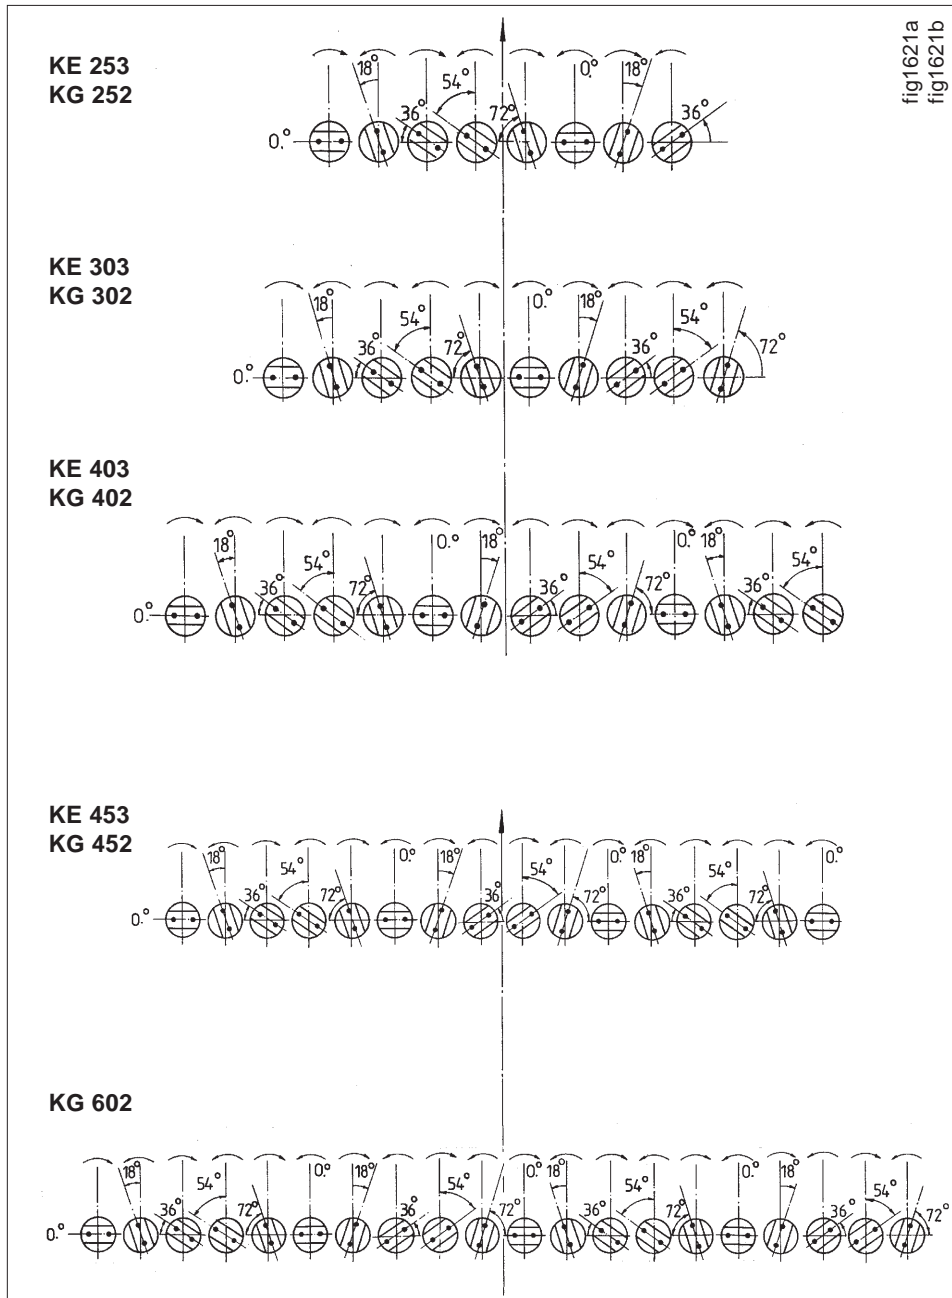
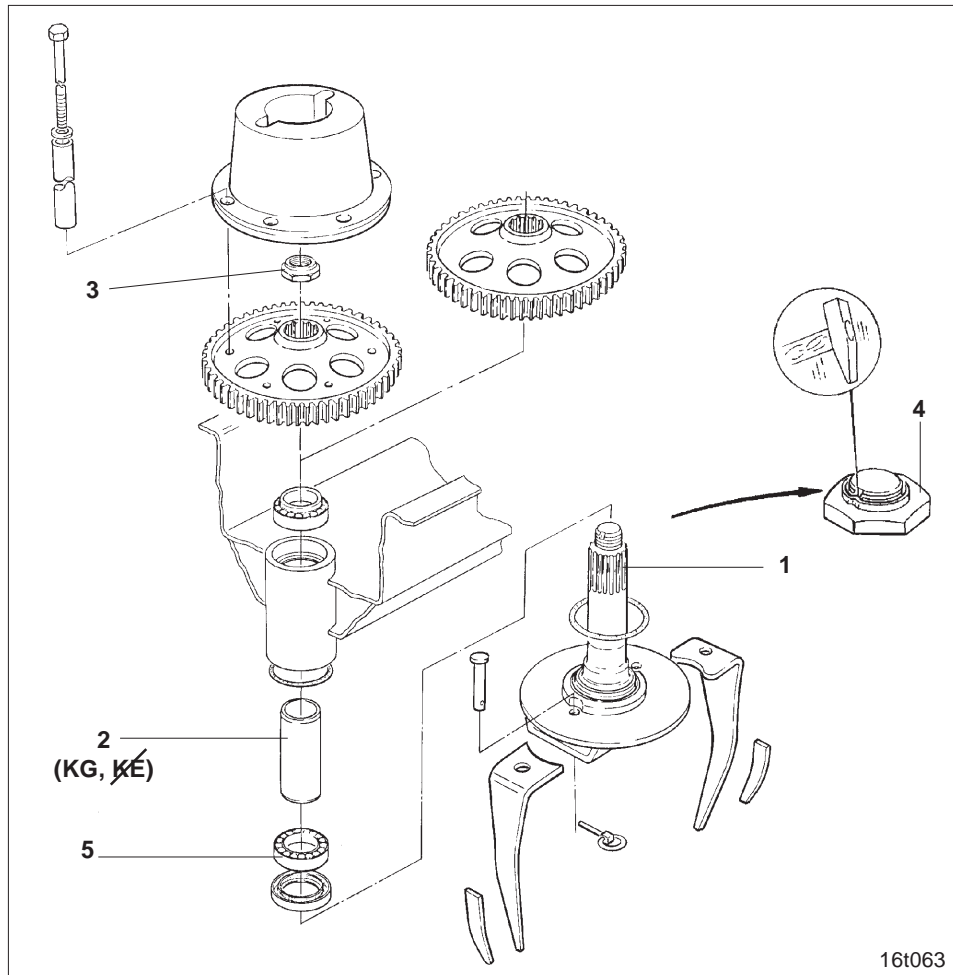

Fig. 19.21
Fig. 19.23
**Basic position:** The basic position of the rotor shafts is shown in Fig. 19.21. The view into the open spur gear housing towards the spur gears is shown. The arrow on the centre line shows the driving direction.
Install individual removed rotor shafts into the spur gear housing according to Fig. 19.23. Before installing these rotor shafts, the remaining rotor shafts in the spur gear trough must first be brought into the basic position (see above). Then install the removed rotor shafts according to Fig. 19.21.
**Only AMAZONE-rotary cultivators are equipped with spacing sleeves (Fig. 19.23/2) as shown in Fig. 19.23.**
If all the rotor shafts were removed from the spur gear trough for repairs, installation begins according to Fig. 19.23 with the first rotor shaft on the outermost left-hand side. After installation, this first rotor shaft is to be brought into the basic position. In the basic position for all machines, the leftmost rotor shaft is in the "0°-position". In the "0°-position", the tines stand perpendicular to the driving direction.
When finished, check the installation using Fig. 19.21. Tighten the spur gear trough nuts on the rotor shafts according to para. 19.10.4.
To remove an external bearing ring (Fig. 19.23/5) the following tools are required:
Screw the spur gear fixing nuts (Fig. 19.23/3) onto the rotor shafts (Fig. 19.23/1) and tighten and secure:
Hit the collar of the spur gear fixing nut (Fig. 19.23/3) into the securing groove (Fig. 19.23/4) of the tine rotor shaft (Fig. 19.23/1).